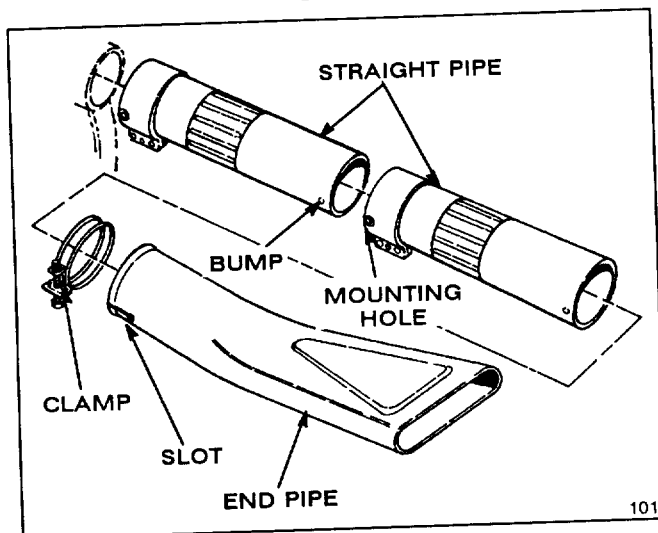

Figure 2
6. Slide end tube onto straight tube, aligning end tube as shown in Fig. 2. Tighten clamp.